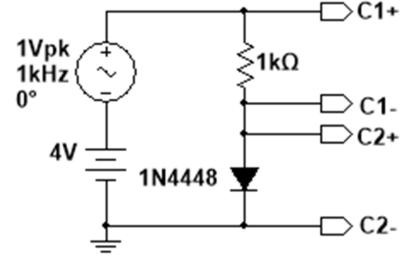

FIGURE 24. Small-signal circuit.
**Problem L4.4 - Small-Signal Behavior.** In this problem we investigate the response of the diode to small perturbations from equilibrium. We will be working in the small signal limit where we can approximate the response of the diode to small changes in voltage or current as linear. We will use a circuit similar to that from L4.3 with the series resistor equal to  $1\text{k}\Omega$  as shown in Fig. 24. Open the Wavegen and **set** the **Function** = Sine, **Frequency** = 1 kHz, **Amplitude** = 1 V, and **Offset** = 4 V.